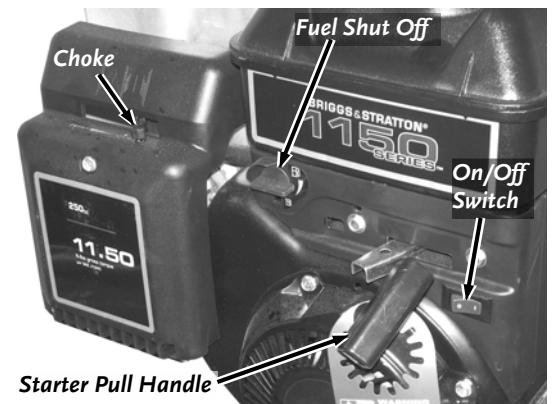

Figure 20A
2. Move the Choke Control Lever to the choke position (leave in the run position if the engine is already warm) (**Figure 20A**).
5. Slowly pull the Starter Cord until you feel resistance, then pull quickly. The Cord will recoil back into position (**Figure 20A**).
8. Turn the On/Off Switch to the OFF position (**Figure 20A**).